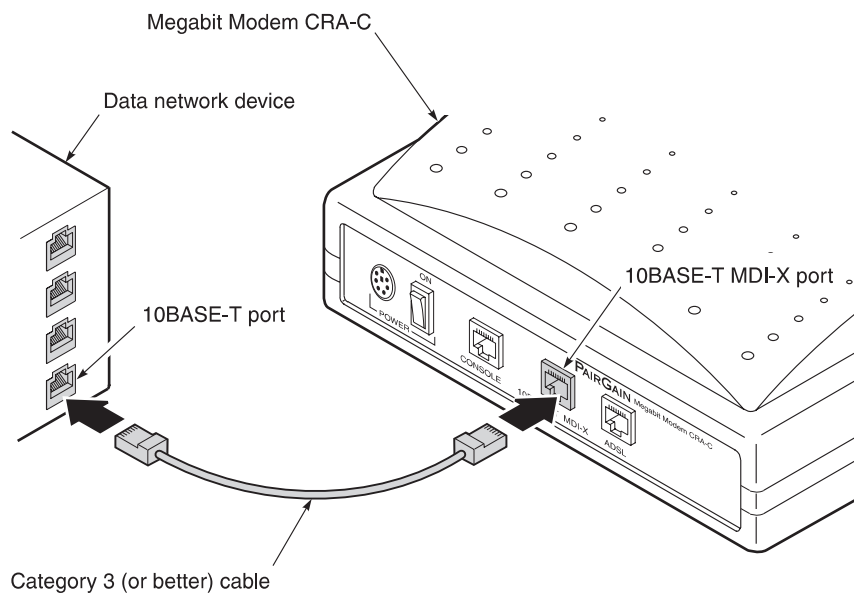

Figure 6. Connecting to the Data Network
- 1 Plug the RJ-45 connector of the Category 3 cable into the 10BASE-T MDI-X connector on the Megabit Modem CRA-C rear panel (Figure 6).